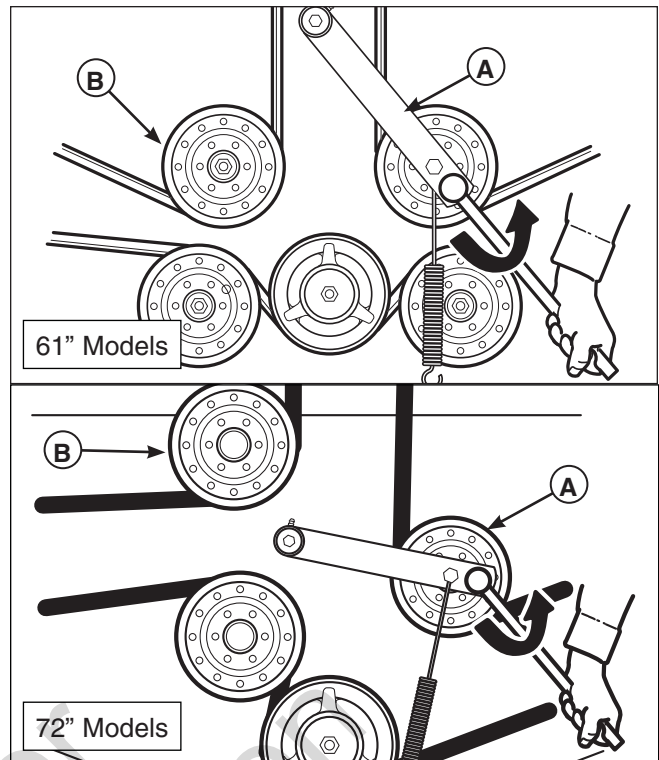
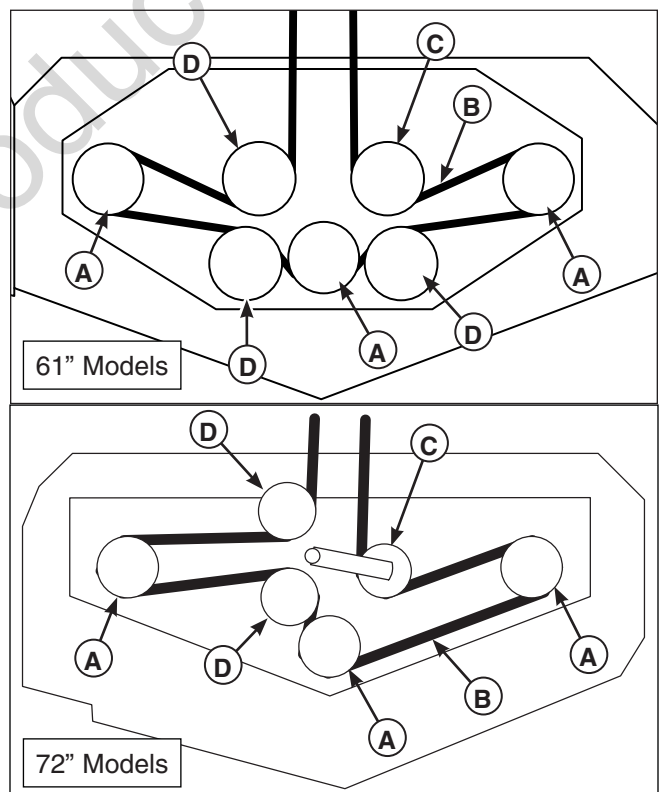

Figure 47. Mower PTO Belt
Figure 48. Mower PTO Belt Routing
3. Using a 1/2" breaker bar, place the square end in the square hole located in the end of the idler arm (A, Figures 47). Carefully rotate the breaker bar COUNTER-CLOCKWISE, which will relieve the tension on the belt exerted from the idler arm.
4. Slide the drive belt over the edge of the stationary idler pulley (B). Carefully release the tension on the breaker bar or the combination wrench.
5. Remove the old belt and replace with a new one. Make sure the V-side of the belt runs in the pulley grooves (Figure 48).
6. Install the drive belt on the PTO pulley, the spindle pulleys and all idler pulleys except the stationary idler pulley (B, Figure 47). Carefully rotate the breaker bar COUNTER-CLOCKWISE and install the belt on the stationary idler pulley (B). Carefully release the tension on the breaker bar.